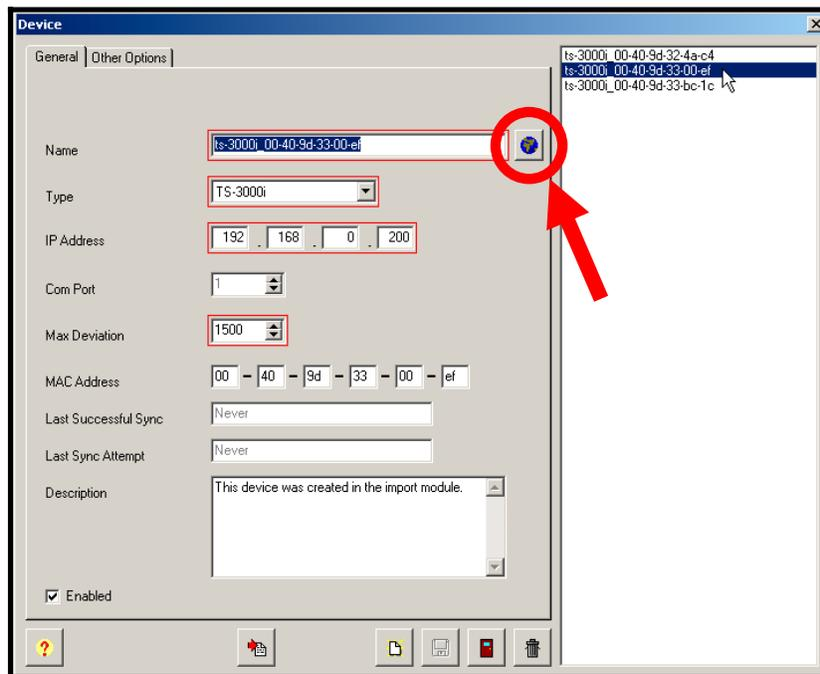

Figure 6-9: Imported TS-3000i Clocks
Step 9. Select the desired Device (clock) from the group list, double-click on it, or click on the Edit  button, and the device screen for that device will appear. All imported devices (TS-3000i clocks) will appear in a list on the right-hand side (see *Figure 6-9*). When you click on the device in the list the
Launch web browser  button will appear to the right of the device (clock) name (see *Figure 6-9*).
Step 2. Select a Group from the expanded list and click on the **New**  button. The Device screen will appear (see *Figure 6-9*).